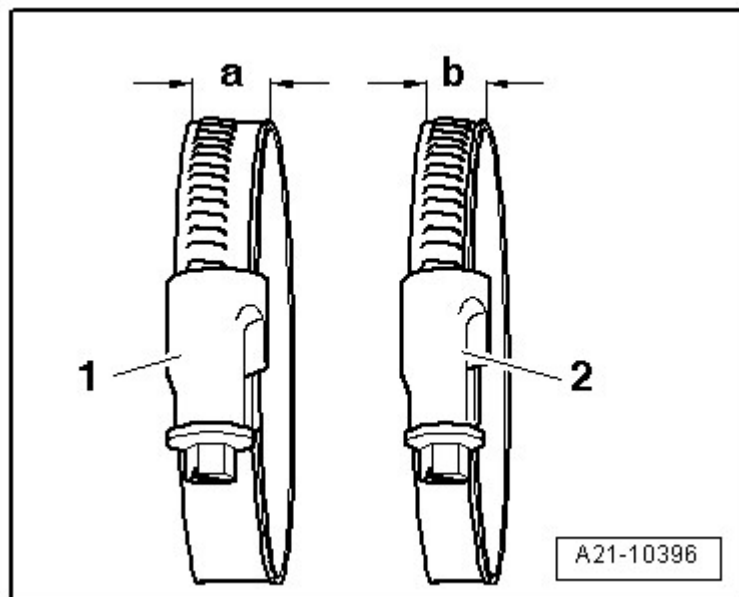

Fig. 38: Identifying Clamp Tightening Specifications
-- Install the air duct hose and screw-type clamps. Refer to **Fig. 38**.